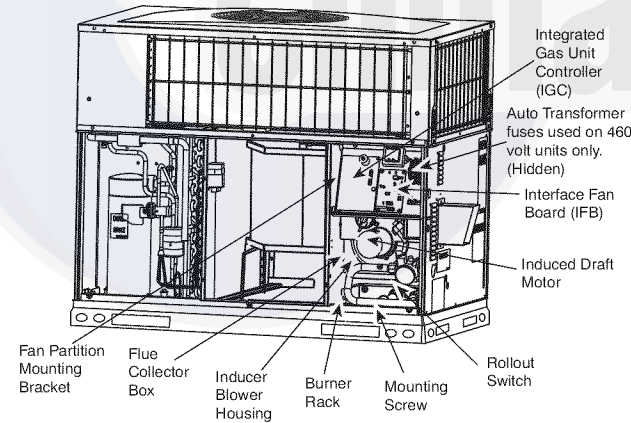

Fig. 18 - Blower Housing and Flue Collector Box
2. Remove the 11 screws holding the flue collector box cover (See Fig. 18) to the heat exchanger assembly. Inspect the heat exchangers.
Unit is equipped with a direct spark ignition 100 percent lockout system. Ignition module (IGC) is located in the control box (See Fig. 18). Module contains a self-diagnostic LED. During servicing, refer to label diagram or Table 5 in these instructions for LED interpretation.
5. Remove fan partition mounting bracket (2 screws located on the left side of control compartment on the fan partition panel). Slide bracket forward, bottom first, to remove (See Fig. 18).
7. Remove the mounting screw that attaches the burner rack to the unit base (See Fig. 18).
8. Partially slide the burner rack out of the unit (see Fig. 18 and 21). Remove ignitor and sensor wires at the burner assembly. Remove rollout switch wires.
9. Slide the burner rack out of the unit (See Fig. 18 and 21).